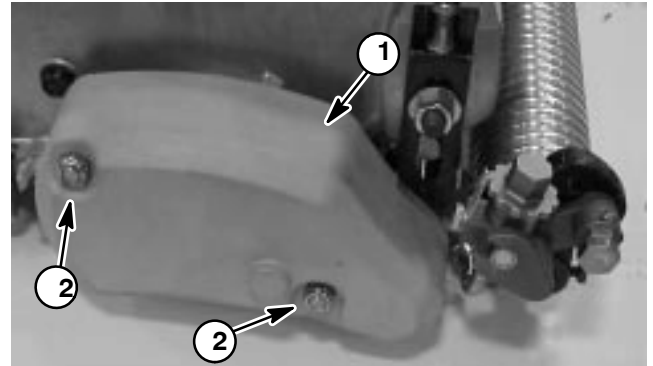

Figure 4
2. Remove two lock nuts that secure groomer belt cover, then remove cover (Fig. 4).